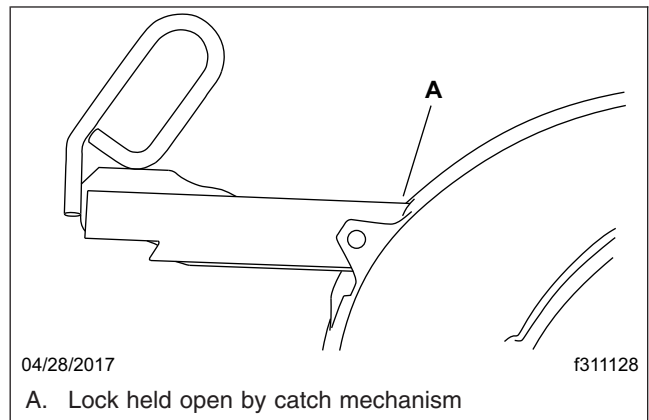

Fig. 10.7, Jost Release Handle Unlocked
- Open the kingpin locks. See Fig. 10.7.